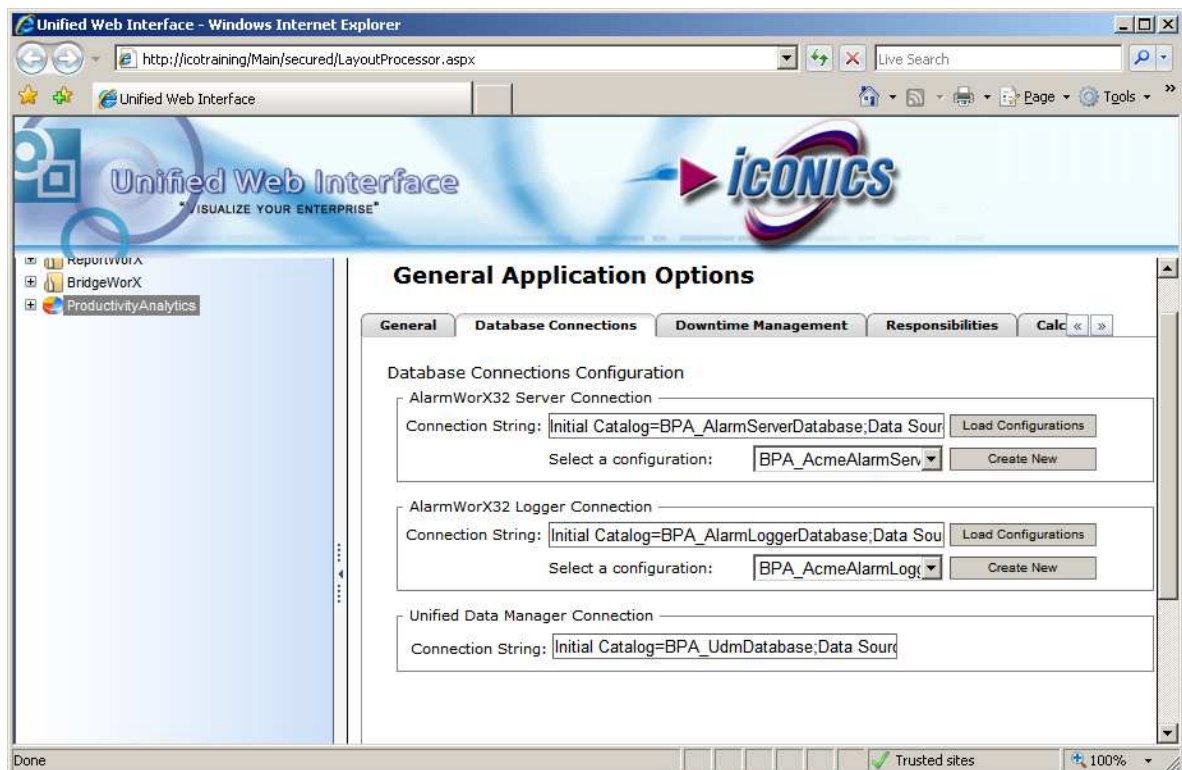

Figure L2.16 - Database Connection Tab
12. Your Database Connection may now look like Figure L2.16. Click on the Apply button to save the changes.